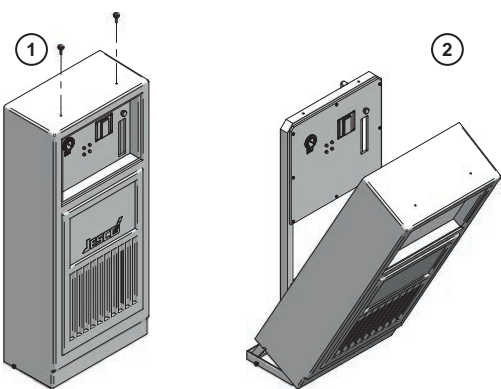

Fig. 9: Opening the cabinet
1. Remove the cover from the device (see fig. 9)